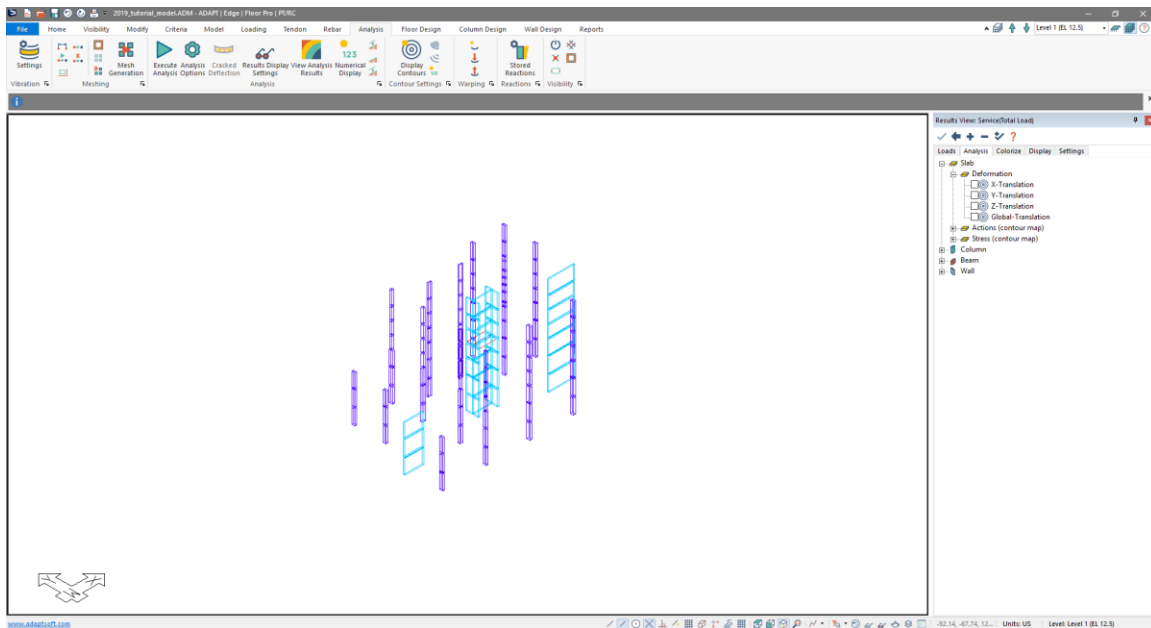

Figure 6-16
- Click the *OK* button to close the window. The user should now see a view of the column and wall stacks as shown in **FIGURE 6-16**.